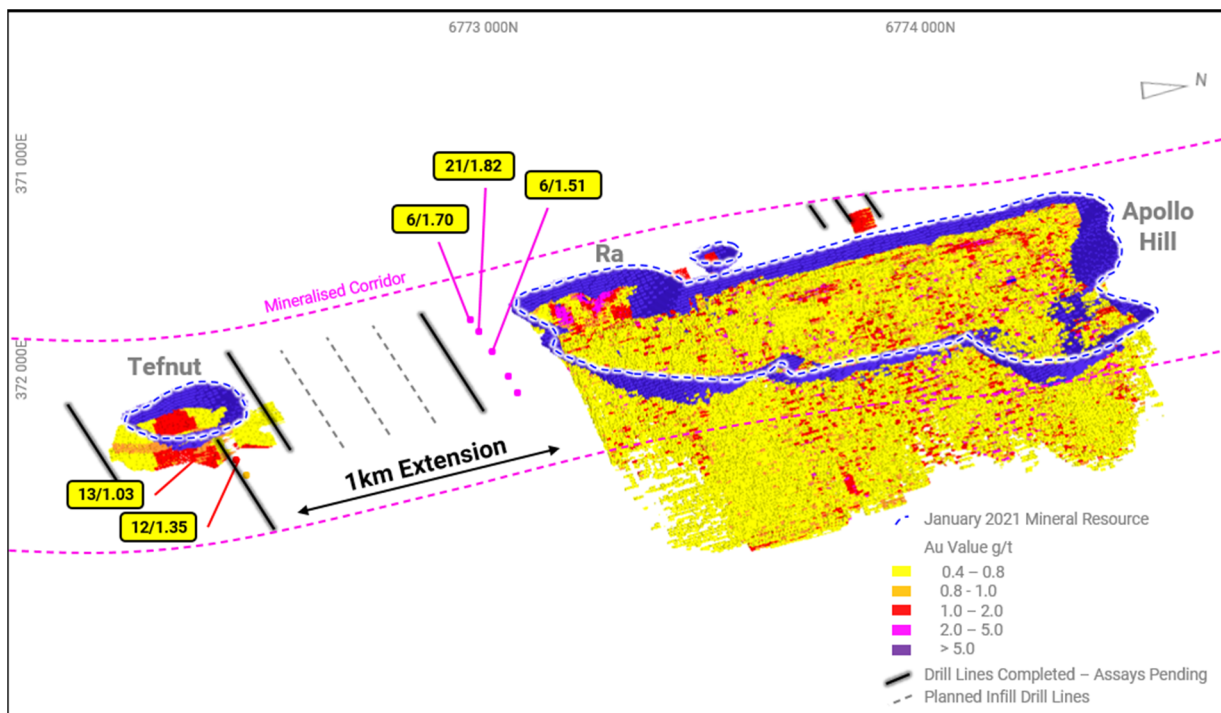

Figure 1 – Location of Ra-Tefnut extensional mineralised corridor
- Several near surface gold intersections have been returned in a broad corridor between Ra and Tefnut immediately south of Apollo Hill (Figure 1).